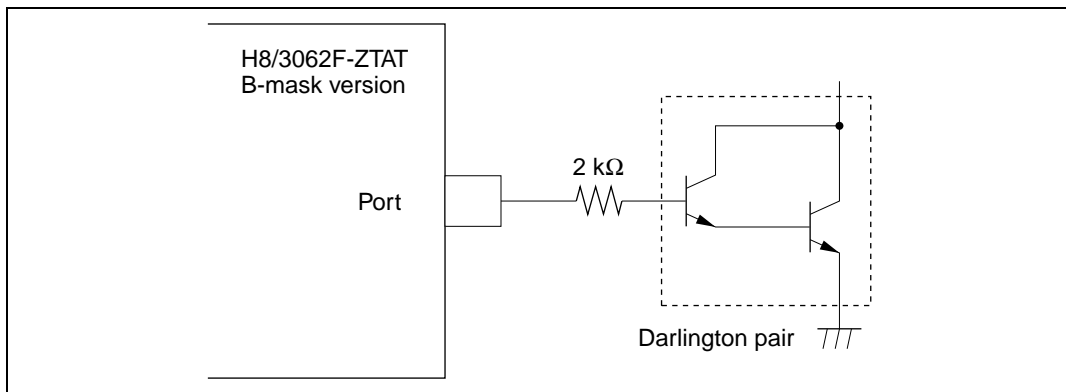

Figure 22.13 Darlington Pair Drive Circuit (Example)
2. When directly driving a darlington pair or LED, always insert a current-limiting resistor in the output line, as shown in figures 22.13 and 22.14.